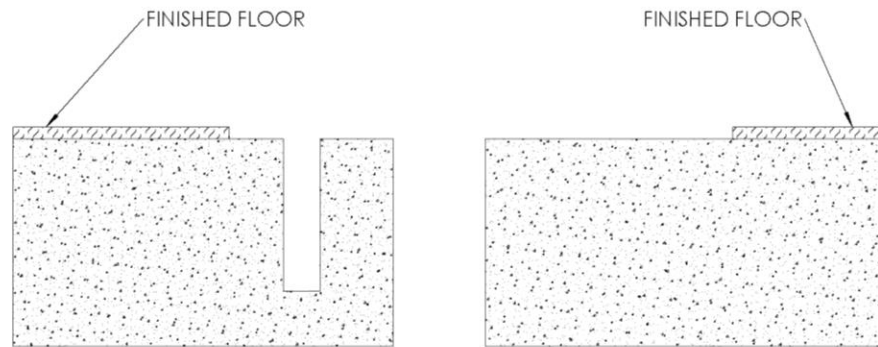

FIGURE 2
2. The floor should be finished (by others) on the anchored and non-anchored side of the expansion joint, up to the locations marked in Step 1. **See Figure 2.**